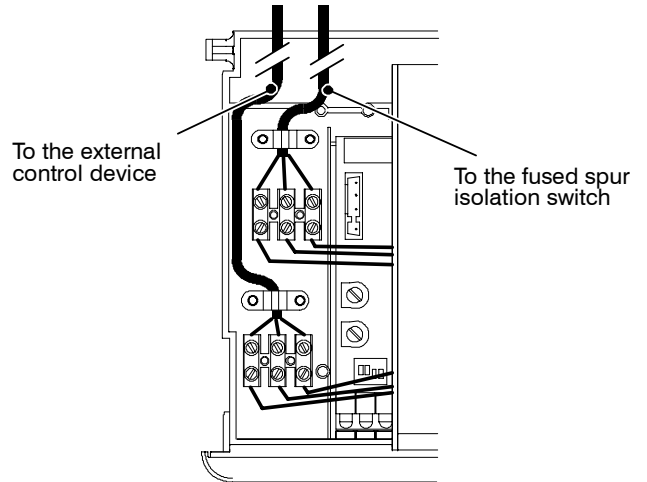

Fig. 6.16
- 9 Route the electrical supply flexible cord and the external control flexible cord as illustrated in Fig. 6.16. Lock the flexible cords in place with the flexible cord clamps